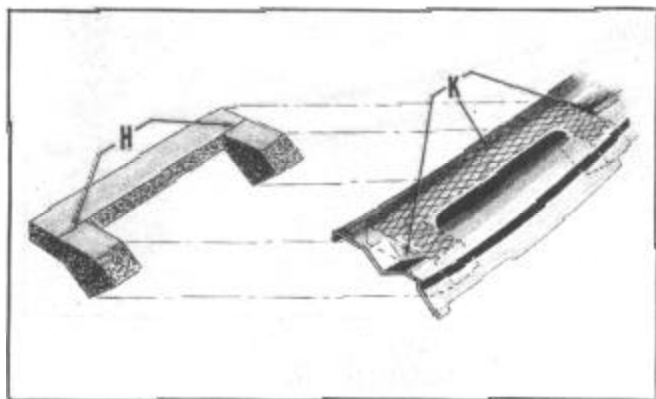

FIGURE 45
6. Join end blocks and rear block by cementing with rubber cement at points (K) as shown in Figure 45, with the top surface flush and the ends square.